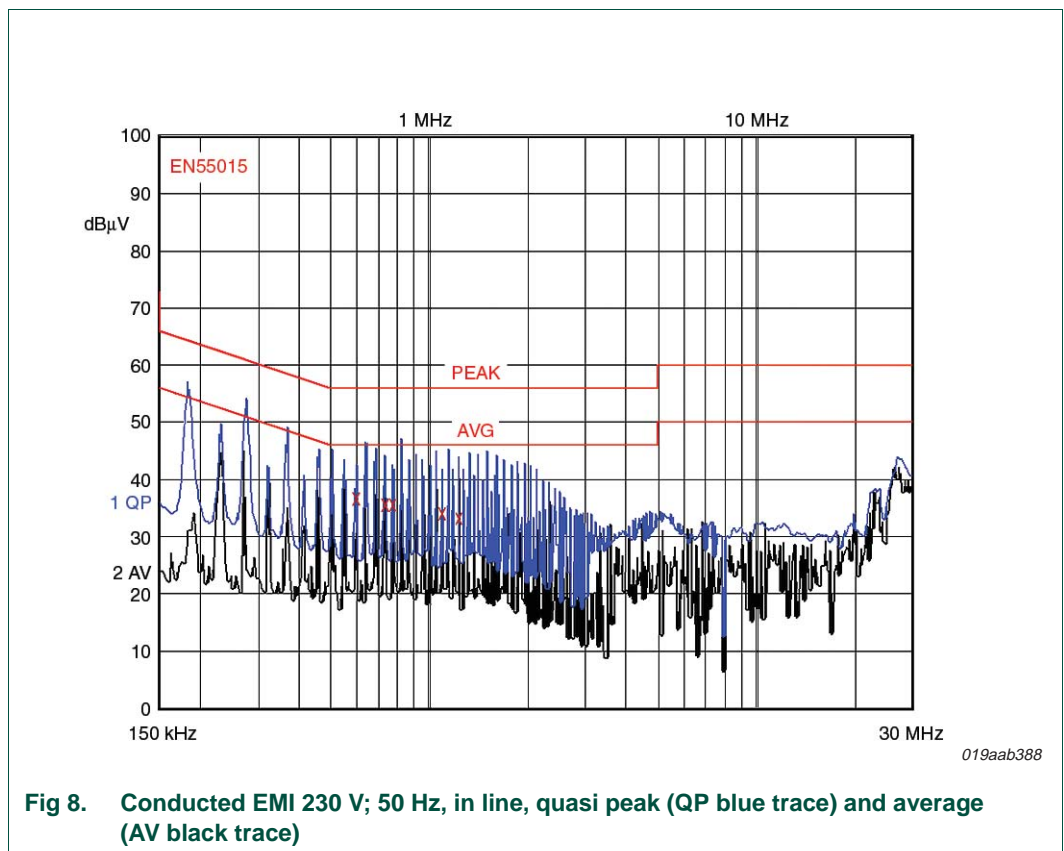
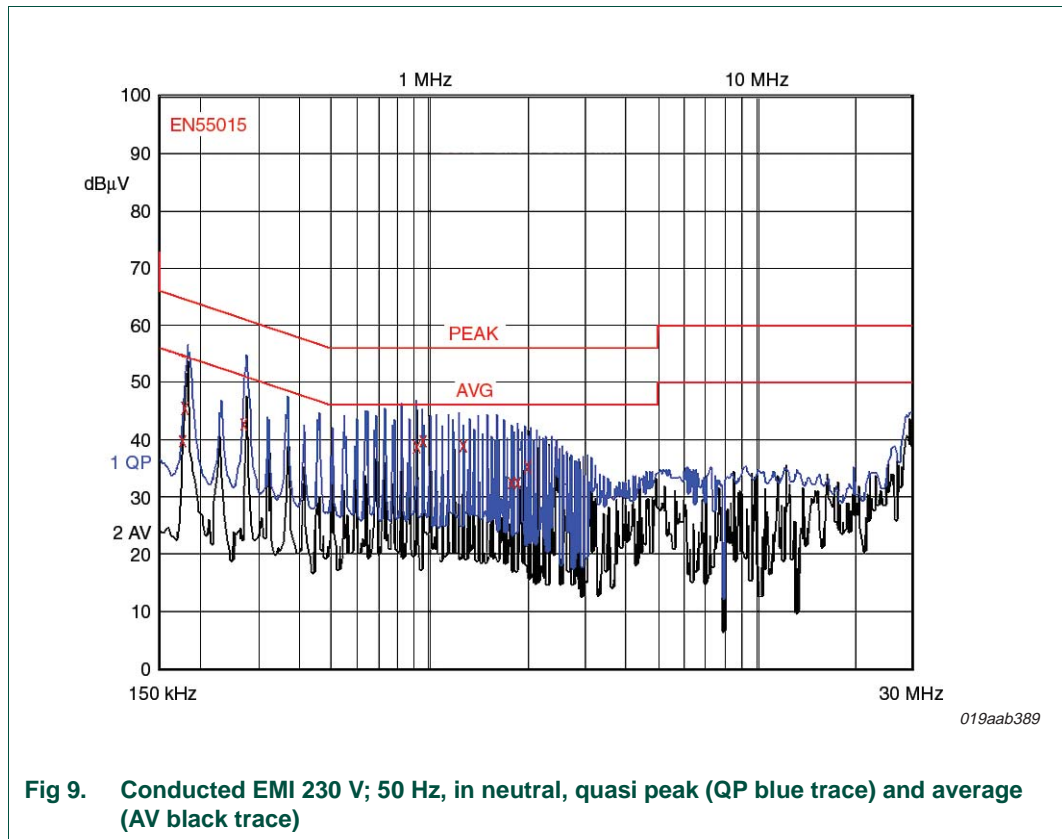

Fig 8. Conducted EMI 230 V; 50 Hz, in line, quasi peak (QP blue trace) and average (AV black trace)
Fig 9. Conducted EMI 230 V; 50 Hz, in neutral, quasi peak (QP blue trace) and average (AV black trace)
Conducted emissions have been measured in neutral and line wires using a pre-compliance test setup and considering the limits for lighting applications, i.e. EN55015. The measurements have been performed at 230 V (AC) line voltage. The results are shown in Figure 8 and Figure 9. The emission level is below both the quasi peak and the average limits with an acceptable margin.